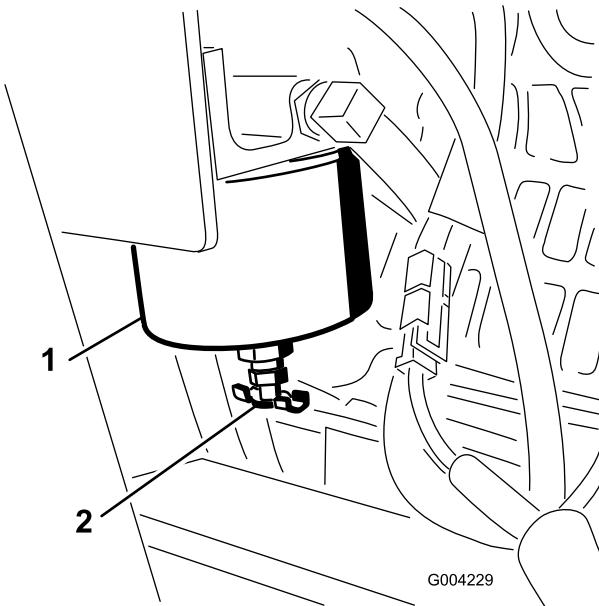

Figure 37
Drain water or other contaminants from the fuel filter/water separator (Figure 37) daily.
1. Locate the fuel filter on the right side of the engine (Figure 37) and place a clean container under it.
1. Clean the area where the filter canister mounts (Figure 37).
2. Remove the filter canister and clean the mounting surface (Figure 37).
4. Install the filter canister by hand until the gasket contacts the mounting surface, then rotate it an additional 1/2 turn (Figure 37).